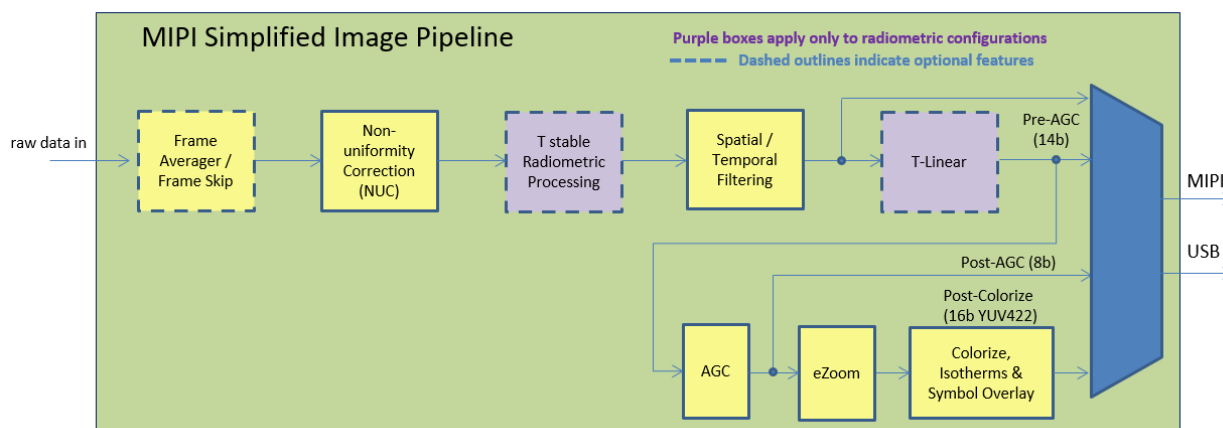

Figure 2: Boson Signal Pipeline – MIPI OUTPUT ENABLED
- **Radiometry Enabled Pre-AGC (14-bit) (factory default with Radiometry enabled):** On Radiometry enabled cameras the T-stable or T-linear tap point is available. See *Figure 2* below, as well as datasheet. The *T-linear conversion from 14-bit image to temperature in Kelvin is counts/25* rather than *counts/100*